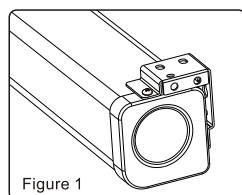

Figure 1
Using a tape measure find out the distance between the two keyholes on the casing (figure 1). According to the measurement, use the drill to drill identical holes of the appropriate size on the ceiling and ensure that it is level (figure 2 & 3). Screw in the hook screws (not provided), and lift the screen into the hook screws to hang (figure 4). To ensure that the screen is level, use a level to check (figure 5).
2. There are two way for wall brackets to fix on the housing. As you can see on the figure 1, which is our normal fixed way (namely factory set). While the other fixed way is to interchange the left and right wall brackets, and then fix onto the housing (namely functional installation way, as figure 2).
Using a tape measure, measure the distance between the two keyholes on the casing (figure 1). According to the measurement, use the drill to drill identical holes of the appropriate size on the wall (use a smaller drill bit than the actual screws) and ensure that it is level (figure 2 & 3). Screw in the appropriate screws, either 5 x 40 by itself for wood walls or with anchors for drywalls, leaving enough space at the end to hang the casing (figure 4). To ensure that the screen is level, use a level to check (figure 5).